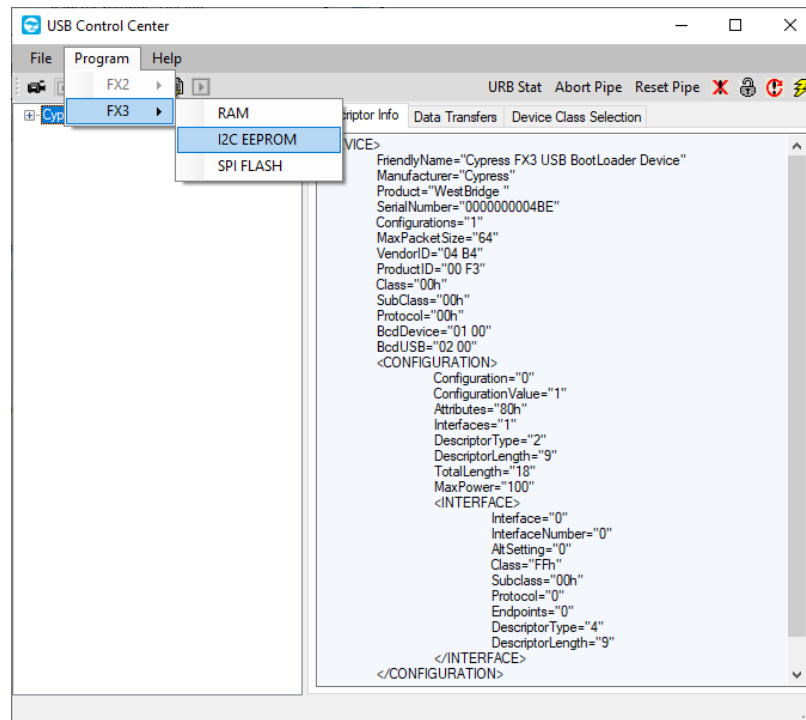

Figure 4.1. Selecting FX3 I²C EEPROM in USB Control Centre
5. Press the **Push** button **SW2** to reset the FX3 chip. Figure 4.1 shows the boot loader device screen.